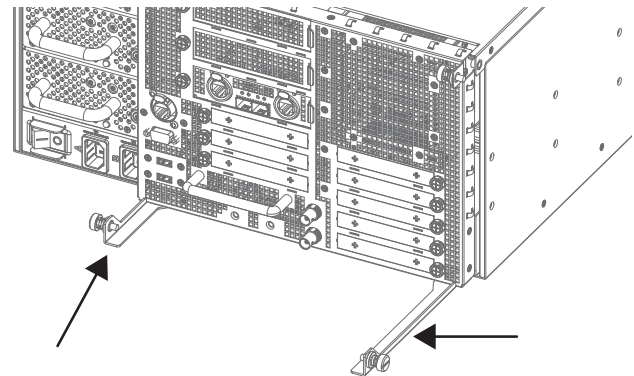

Figure 2. Latches fully extended
- 5 Simultaneously pull the two bottom thumbscrews outward so the latches they are attached to are fully extended, as shown in Figure 2.